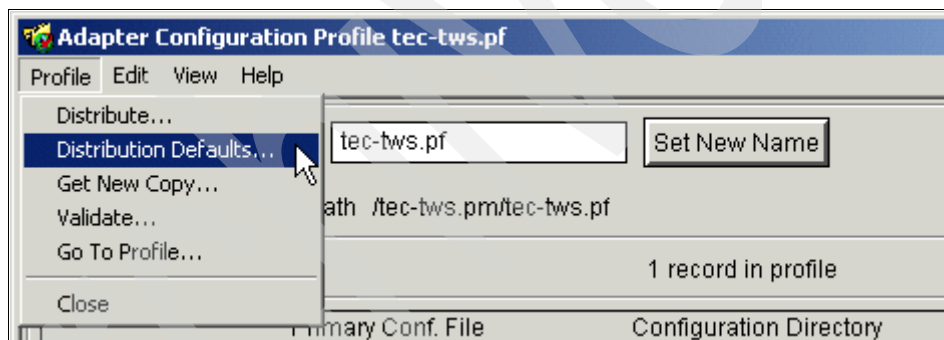

Figure 8-40 Setting distribution defaults of an ACP profile
19. Select **Profile** → **Distribution Defaults...** as shown in Figure 8-40.